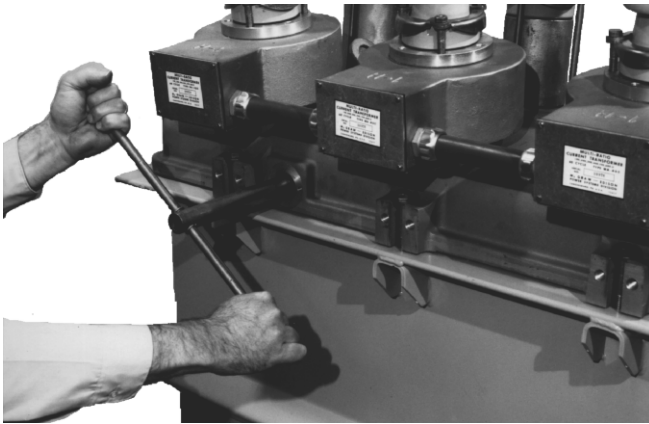

Figure 45.
2. Insert the tee-handled tool (available as an accessory) into the port, engaging the pin on the closing shaft (Figure 45).